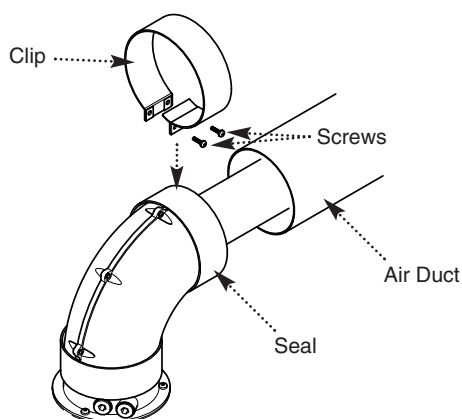

Fig. 25
12. Draw the air duct out of the wall and align it with the elbow. Position the seal so that it equally covers the joint (Fig. 25).
13. Remove the screws from the second clip provided. Prise the clip apart and fit it over the seal. Refit the screws to the clip and tighten them (Fig. 25).